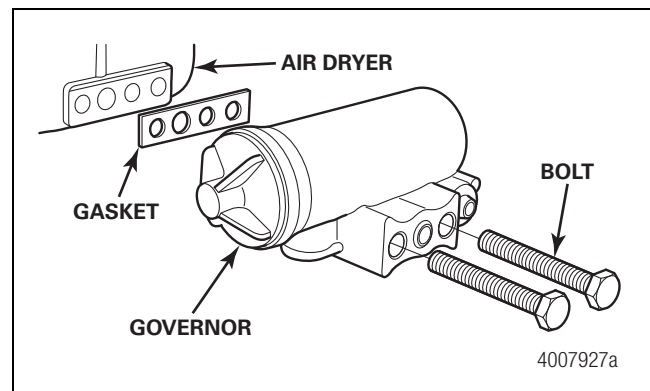

Figure 2.10
1. Remove the mounting bolts, governor and gasket or O-rings. Discard the gasket or O-rings. Figure 2.10.